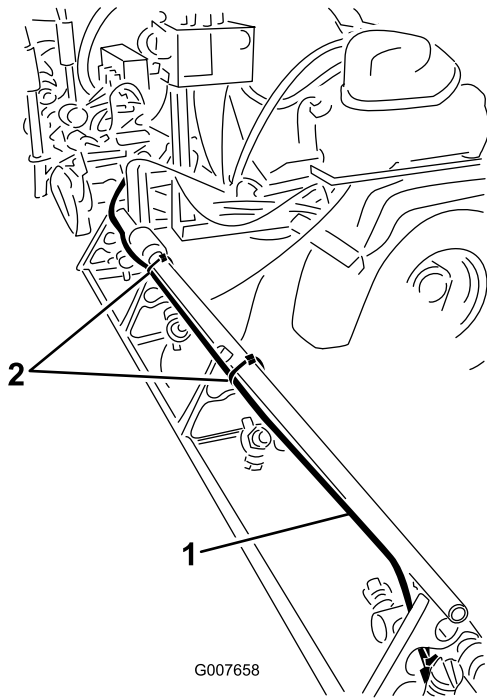

Figure 29
4. Route the tube assembly along the rear side of the upper support pole of the outer boom section as shown in Figure 29.
6. Secure the tube assembly to the outer boom section with cable ties as shown in Figure 29.